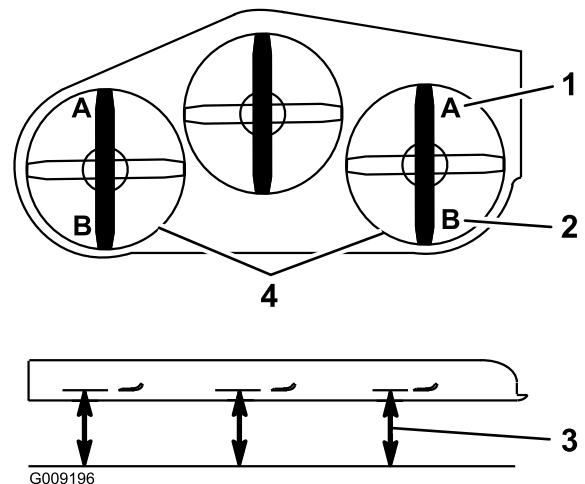

Figure 93
9. On both sides of the deck, measure from the level surface to the front tip of the blade (Position A). The measurement should read 3 inches (7.6 mm) (Figure 93).
16. On both sides of the deck, measure from the level surface to the back tip of the blade (Position B). The measurement should read 3 1/4 inches (8.3 cm) (Figure 93).